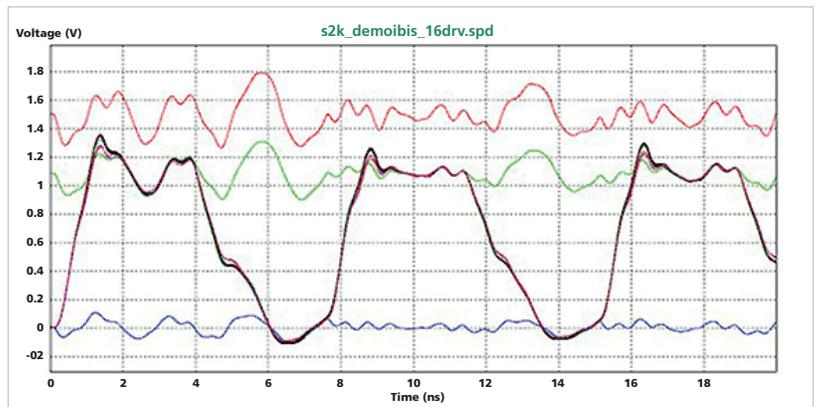

Figure 1: Results from a power-aware signal integrity simulation
The term “power-aware” was first introduced several years ago. Since then, power-aware signal integrity (SI) has been used to refer to advanced SI simulation methodologies that can analyze signal and power noise simultaneously (Figure 1). These methodologies, however, are misunderstood by many people as the same simulation technology used to analyze simultaneous switching noise (SSN).